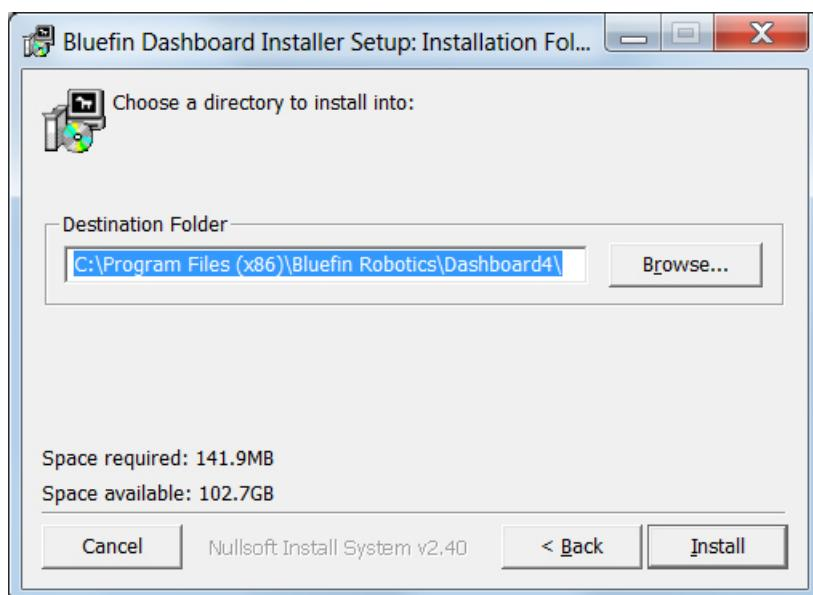

Figure 114: Dashboard Installer Program—Select Destination Folder
5. Click **Next**. The destination folder selection screen displays (Figure 114).